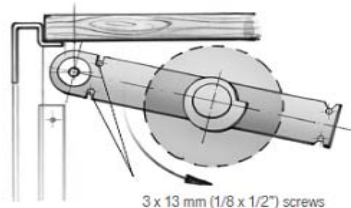

Fig. 12
3. Secure the end bracket with two more screws as shown in Fig. 12. Use flathead 3 x 13 mm (1/8 x 1/2") screws (not included).
- Remove the temporary adhesive tape. Hold the tambour door profile and pull it over the guide roller into the running tracks as shown in Fig. 12.